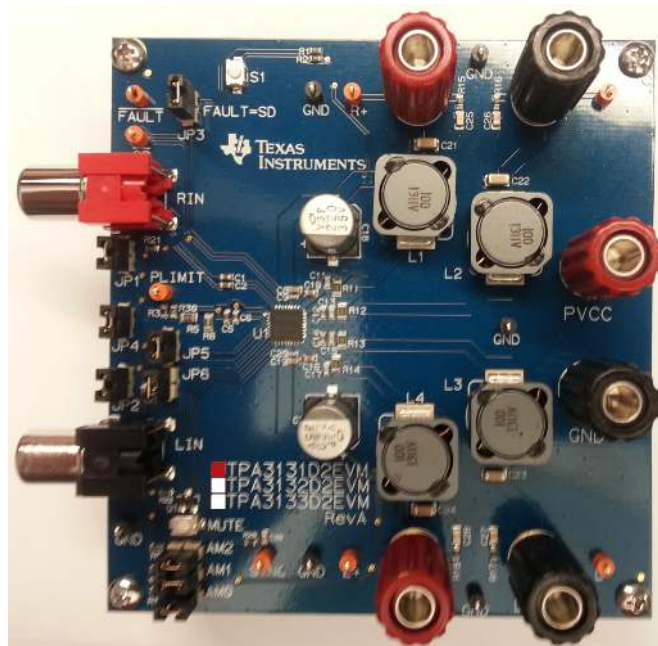
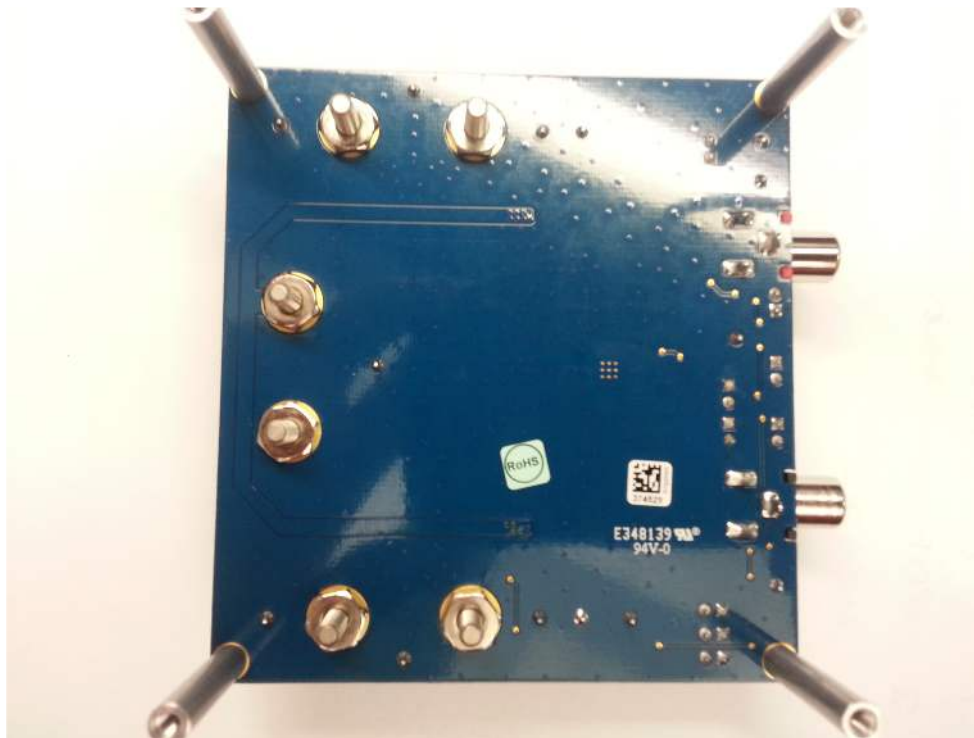

Figure 1. TPA3131D2EVM Audio Power Amplifier – Top View
Figure 2. TPA3131D2EVM Audio Power Amplifier – Bottom View
The TPA3131D2EVM (EVM) customer evaluation module, Figure 1 and Figure 2, demonstrates the TPA3131D2 integrated circuit (IC) from Texas Instruments.